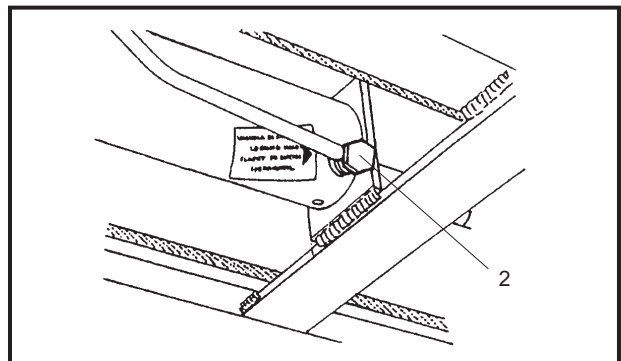

Fig.21 Cylinder locking valve
- If one or more hoses in the hydraulic circuit should break, a cylinder locking valve will operate (Pos.2, fig.21).